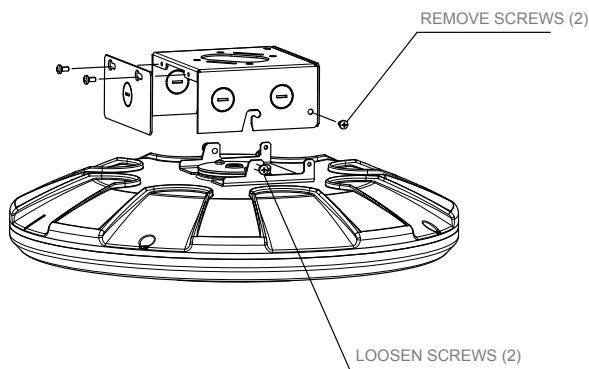

Figure 1
1. Remove and loosen the screws. See Figure 1.